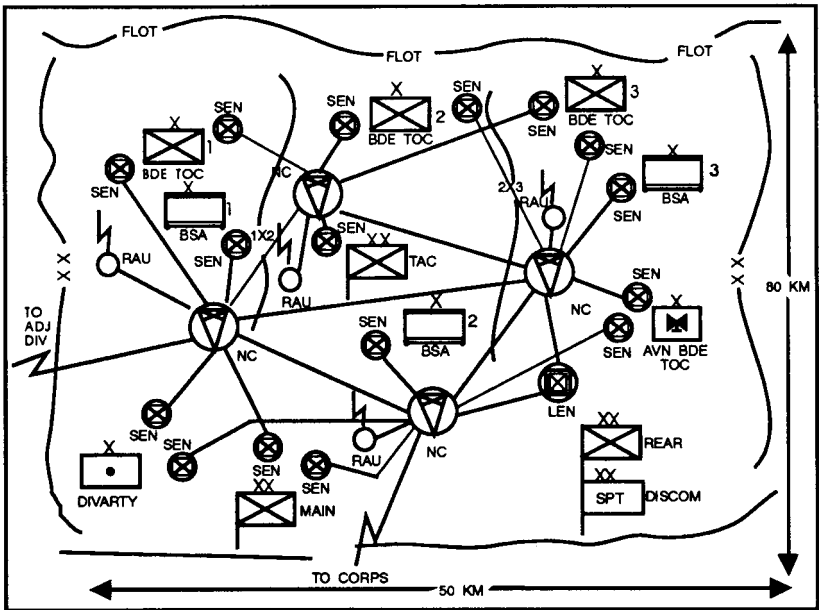

Figure 3-2. Light division ACUS.
**Employment.** The MSE system is the primary ACUS configuration for ECB. MSE forms a network that covers the area occupied by unit subscribers. For a division, the grid is made up of four to six centralized NCs which make up the hub or backbone of the network. Throughout the maneuver area, subscribers connect to SENS/LENS by radio or wire. These extension nodes serve as local call switching centers and provide access to the network by connecting to the NCs. See Figure 3-2.